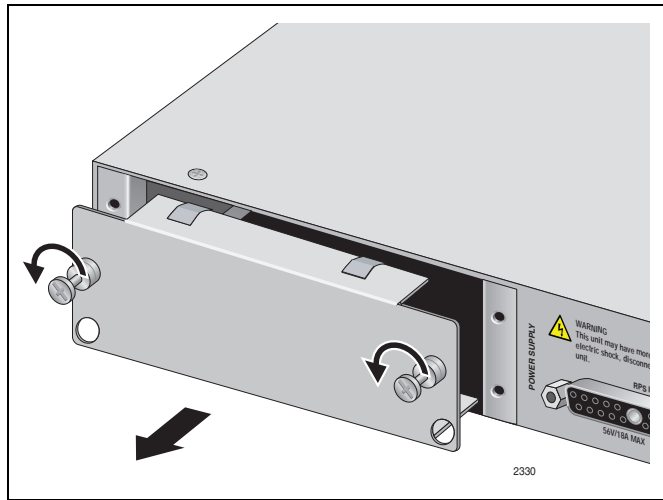

Figure 47. Removing the Blank Panel from the Power Supply Slot
2. Remove the blank panel from the power supply slot on the rear panel of the switch by loosening the two captive screws on the panel with a cross-head screwdriver, as shown in Figure 47 on page 83.